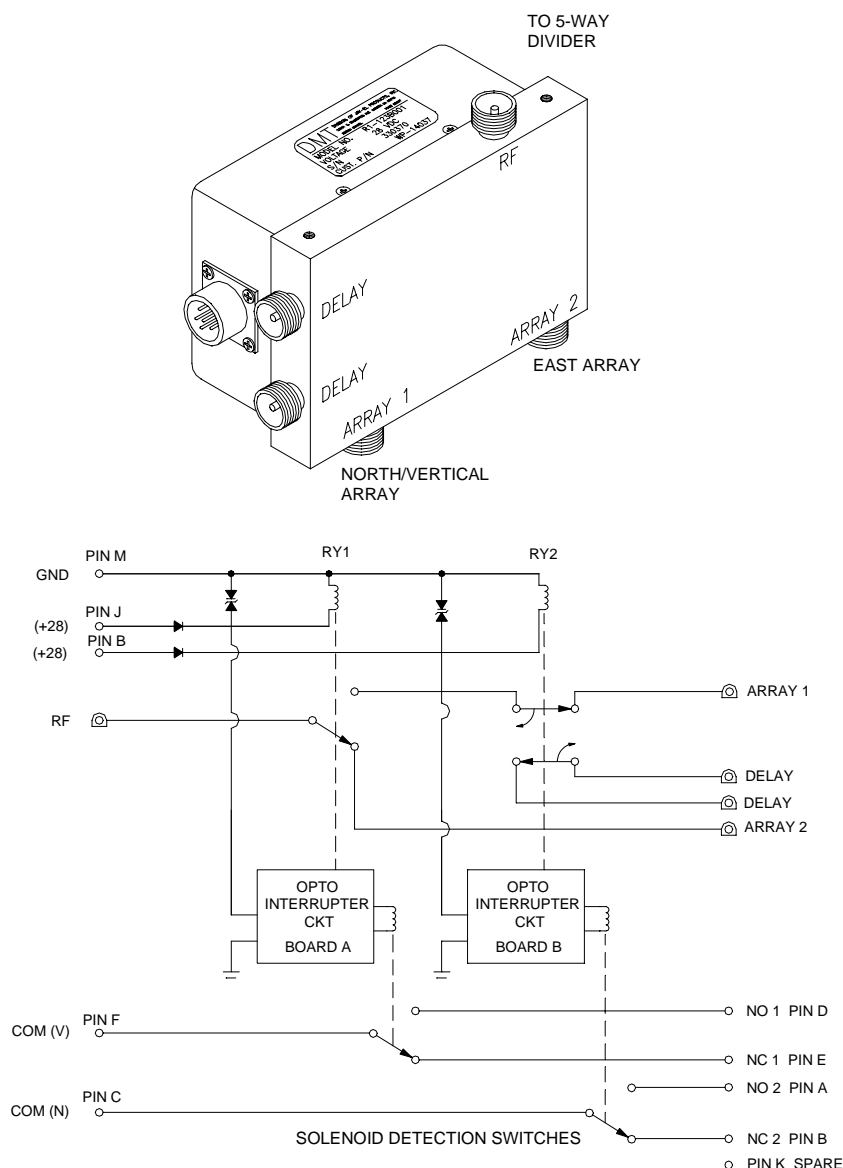
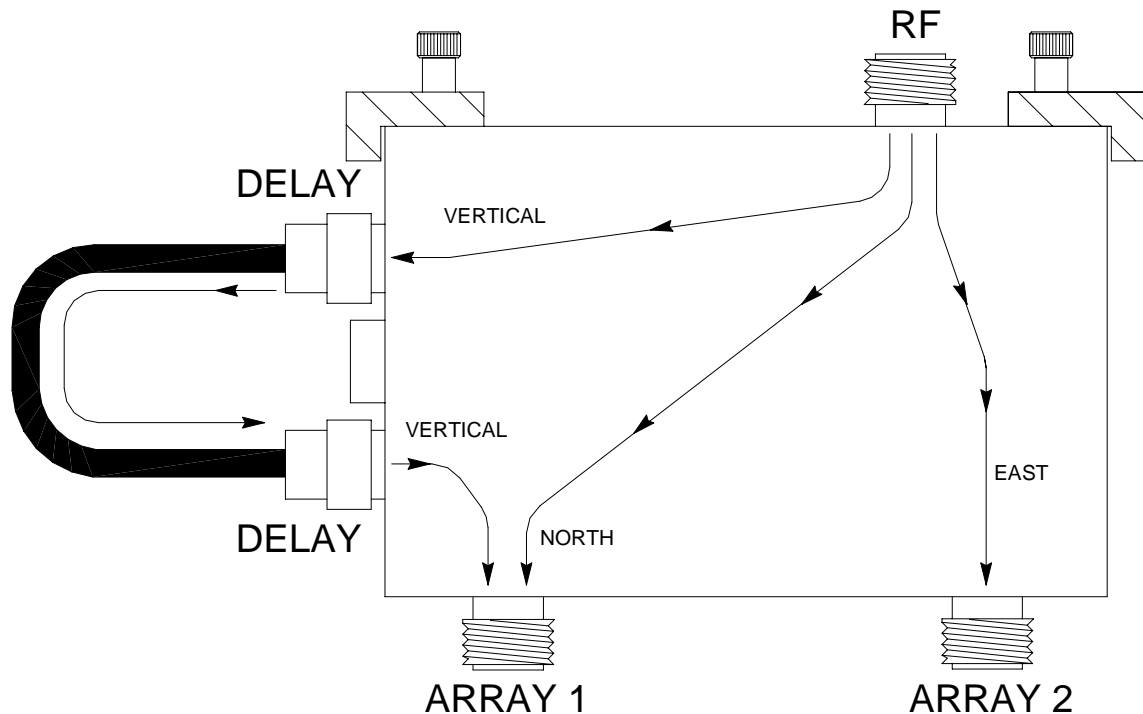

Figure 5-24 BSU Coaxial Switch Assembly Schematic Diagram
Figure 5-25 BSU Coaxial Switch Signal Routing
The BSU Switch Assembly contains five identical coaxial switches that control routing RF energy to the east and north/vertical antenna arrays (see Figure 5-24). Internally, the coaxial switch assembly is comprised of two sets of relays actuated by two +28 VDC solenoids. Solenoid operation is monitored using optical sensors that detect actuation failures. Figure 5-24 shows the physical configuration of a coaxial switch and its schematic diagram. Figure 5-25 depicts the route of RF energy through the switch in the various beam positions.
4. Loosen and remove the type "N" connectors between the 10 Extension Cables and the BSU Switch Assembly refer to [Figure 5-24].
Loosen and remove the type "N" connectors from the inputs of the BSU Switches refer to [Figure 5-24] and disconnect the five Power Distribution Cables.
9. Replace the ten Extension Cables refer to [Figure 5-24].